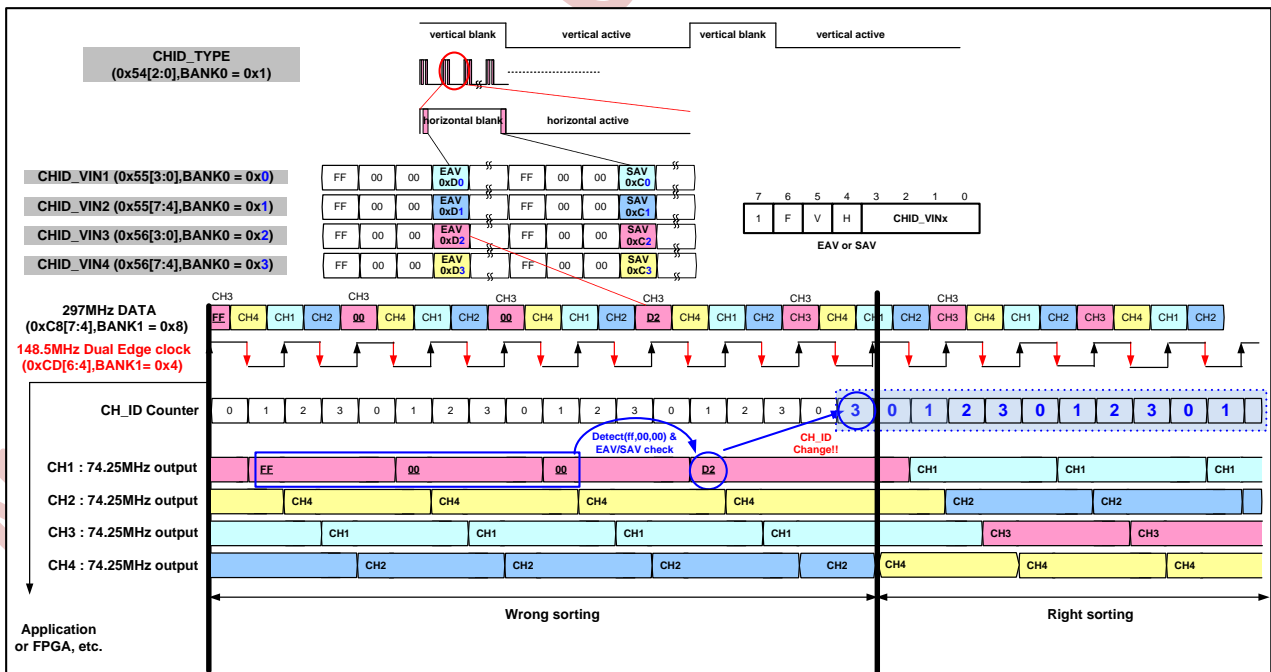

Figure 2.17 NVP6134C Select Channel ID
5. FPGA or equivalent devices which is input 297MHz time multiplexed data output, need to align with same channel data. (74.25MHz 1,2,3,4 channel). Figure2.17. shows how to use Channel ID as a example.
6. CHID_TYPE(BANK0, 0x54[2:0]=001) mode described in top of Figure2.17.
8. Using 2bit digit, Convert from 297MHz Data to 74.25MHz Data (Wrong sorting part in Figure2.17.) and then Define the 2bit digit (0 : Ch1 data, 1 : Ch2 data, 2 : Ch3 data, 3 : Ch4 data).
9. For mapping between separated each channel data and specified counter value, Select channel among separated each channel (1CH selected in Figure2.17.). If selected channel data become Right sorting condition, other 3 channel is sorted automatically.
11. If the EAV/SAV[3:0] is '2', make a counter reset to '3' (Refer to Blue color in Figure2.17.)